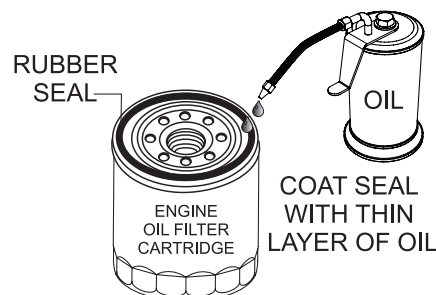

Figure 46. Oil Filter Gasket
2. Coat the **rubber seal** (gasket) surface of the new oil filter with clean **15W-40 engine oil** (Figure 46).